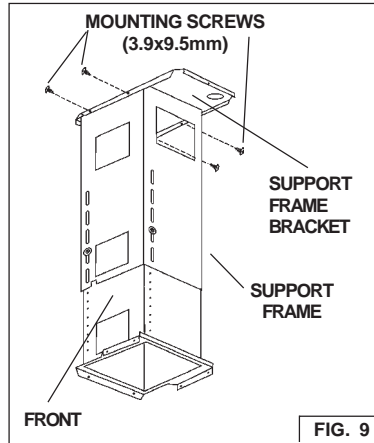

FIG. 9
7. Hang the support frame from the support frame bracket (located on ceiling). Securely fasten with (4) 3.9x9.5mm mounting screws. Fig. 9.